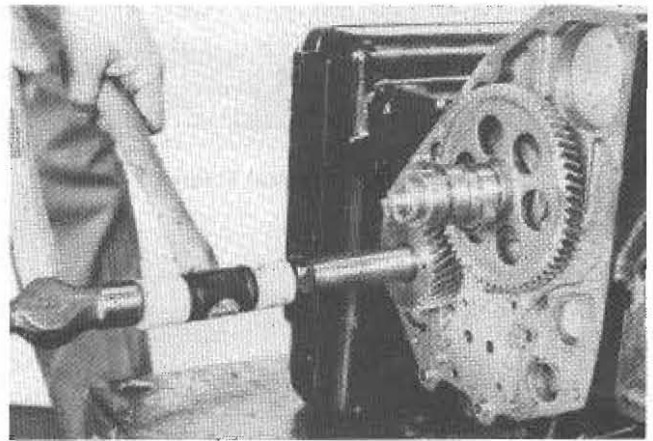

Fig. 2-6 Crankshaft Removal
24. Using a plastic or soft hammer as a drift (Fig. 2-6), drive the crankshaft free of the crank gear and front and rear main bearings. Remove crankgear. Carefully withdraw crankshaft through flywheel end with intermediate and rear main bearing housings attached.